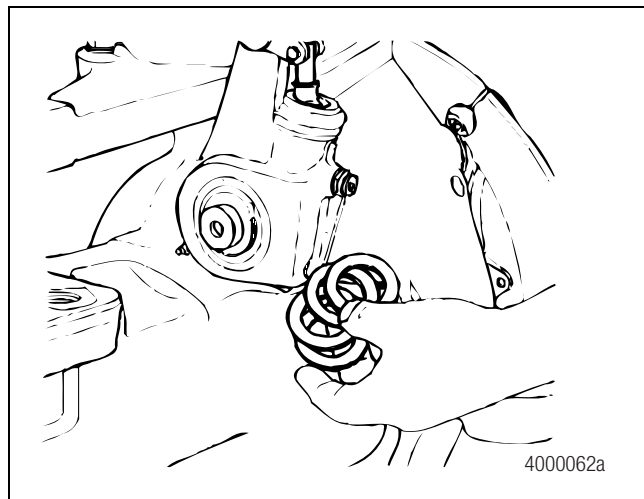

Figure 6.21
3. Install the slack adjuster washers at the adjuster end of the camshaft. Figure 6.21. Use as many washers as required to keep slack end play at 0.060-inch (1.5 mm) maximum.